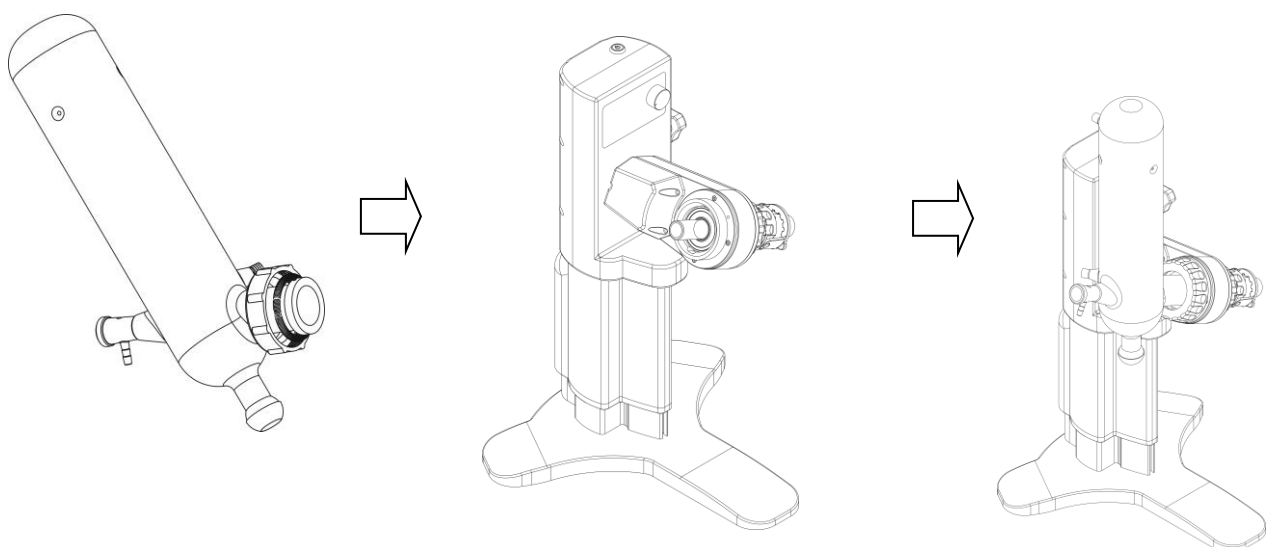

Figure 11
(3) The condenser interface is covered with a condensation fixing cover (Figure 7 (2)) and a condenser fixing compression spring (Figure 7 (13)). The bottle surface of the condenser interface is aligned with the main and auxiliary sealing rings in the machine head and tightened at the same time. (See Figure 11)